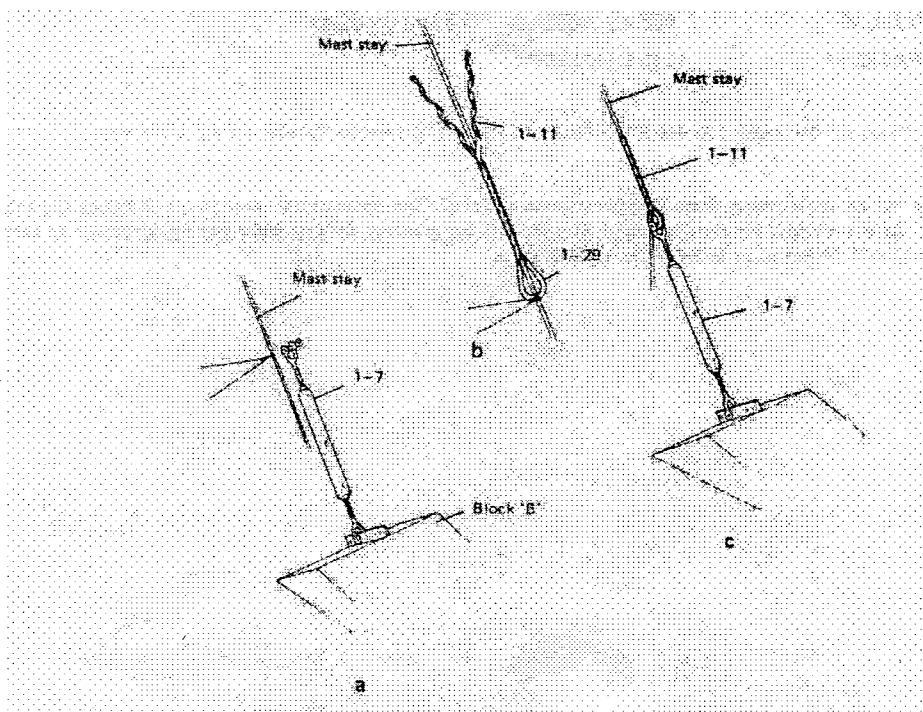

FIGURE 12 – Terminating the Guys at the Anchor Blocks
- Step 20 - Attach a rigging screw (1-7) to foundation Block B and hold it in line with the mast guy. Pull the guy by hand towards the anchor block, and mark the point at which the guy and fork end of the rigging screw coincide, the rigging screw having been fully extended to give the maximum amount of adjustment as shown in Fig. 12(a). Take the guy away and fit a pre-formed guy grip (1-11) so that the back of the thimble (1-29) is positioned at the marked-off point, as shown in Fig. 12(b).
- Step 21 - Re-present the guy to the rigging screw and couple together, as shown in Fig. 12(c). When all the mast guys of one set have been secured, they should be tensioned by adjusting the rigging screws, ensuring that the mast remains vertical. After the guys have been correctly tensioned in accordance with the following data, spare lengths can be cut off the guys.